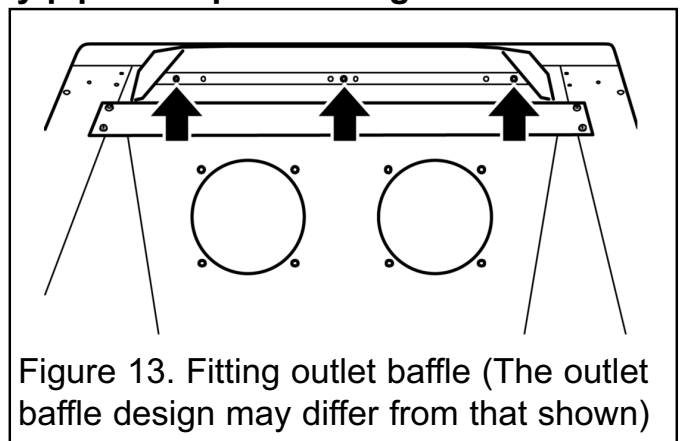

Figure 13. Fitting outlet baffle (The outlet baffle design may differ from that shown)
5. The **Masquerade, Excelsior, Dream and Trueflame** models have an outlet baffle supplied with the appliance fascia. Fit this to the convected air outlet of the appliance using the three self tapping screws supplied with the fascia (See figure 13).